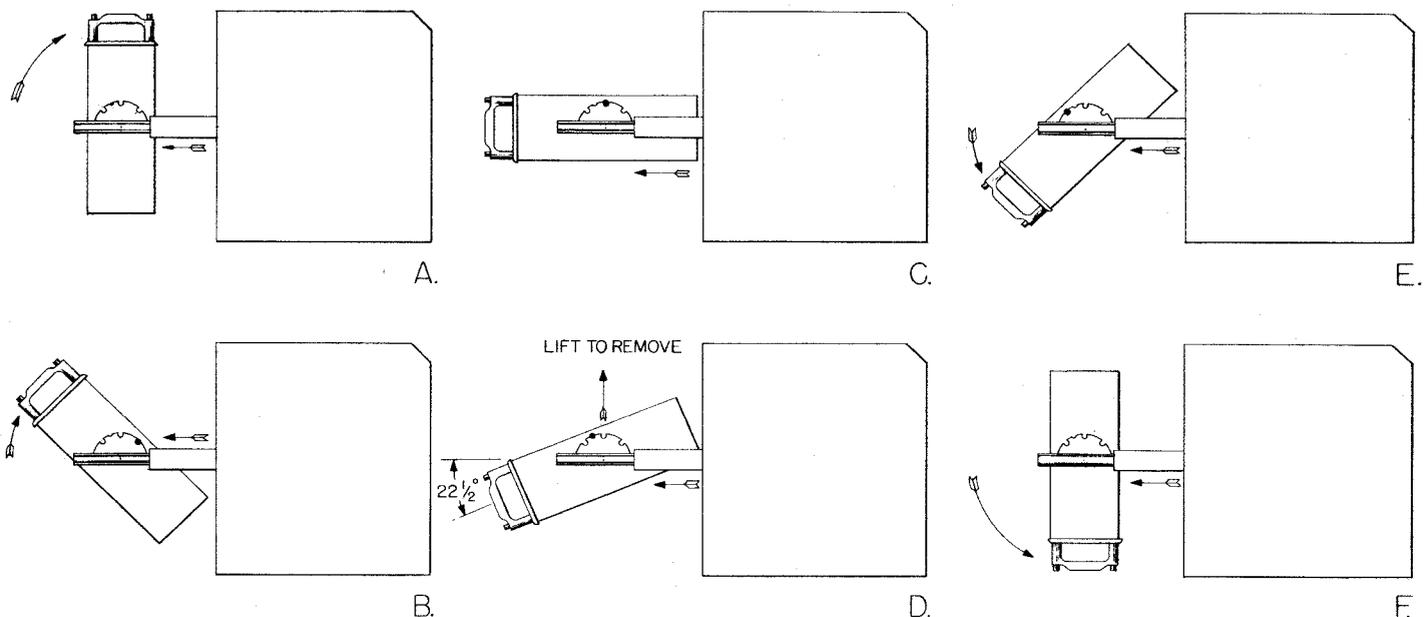

Figure 5-2. Tilt Positions of Drawer Assembly
(*b*) Depress the lower pushbuttons in the unit handles and tilt the assembly by lowering the panel, to about 22½ degrees down, where a slight detent in the latching plate gives a partial locking effect which can be felt. See position "D" of figure 5-2 (also see figure 1-2).
c. TUBE REPLACEMENT.—To replace tubes, depress the buttons at the top of the unit handles and withdraw the drawer assembly to its full travel from the case. Depress the lower buttons in the handles and tilt the assembly to the most convenient angle. See figures 5-2 and 1-2.